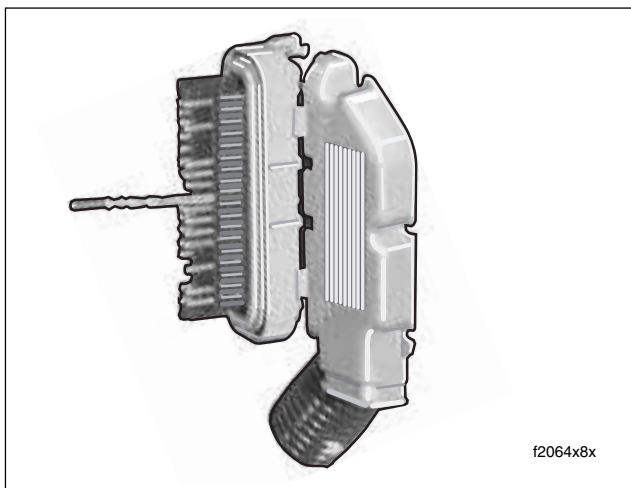

Figure B-35. Push Wire to Extract Terminal
4. Push on selected wire to free terminal from chamber. See Figure B-35.
1. From inside socket housing, gently pull on wire to draw terminal into chamber. See Figure B-35.